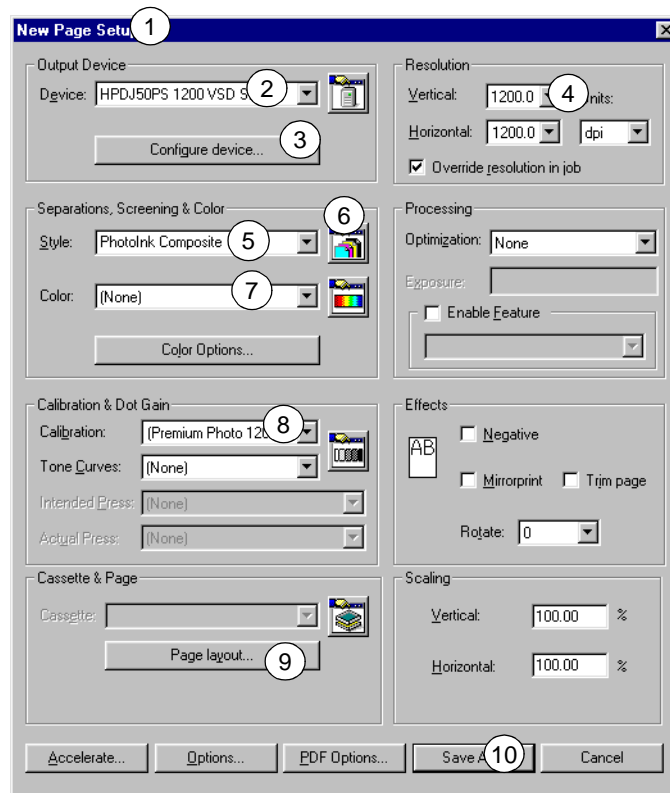

Figure 2. Creating a page setup in a pre-v6 release RIP
- ① In the Torrent RIP, open the Page Setup Manager: **Torrent > Page Setup Manager**. Click **New** to open the New Page Setup dialog, as shown in Figure 2..
- ② From the **Device** menu choose the device that you want to use. Refer to Table 1. on page 20 for a list of devices supported by the plugin.
- ③ Click **Configure device** to modify configuration settings as desired. See “Plugin device configuration” on page 14 for details.